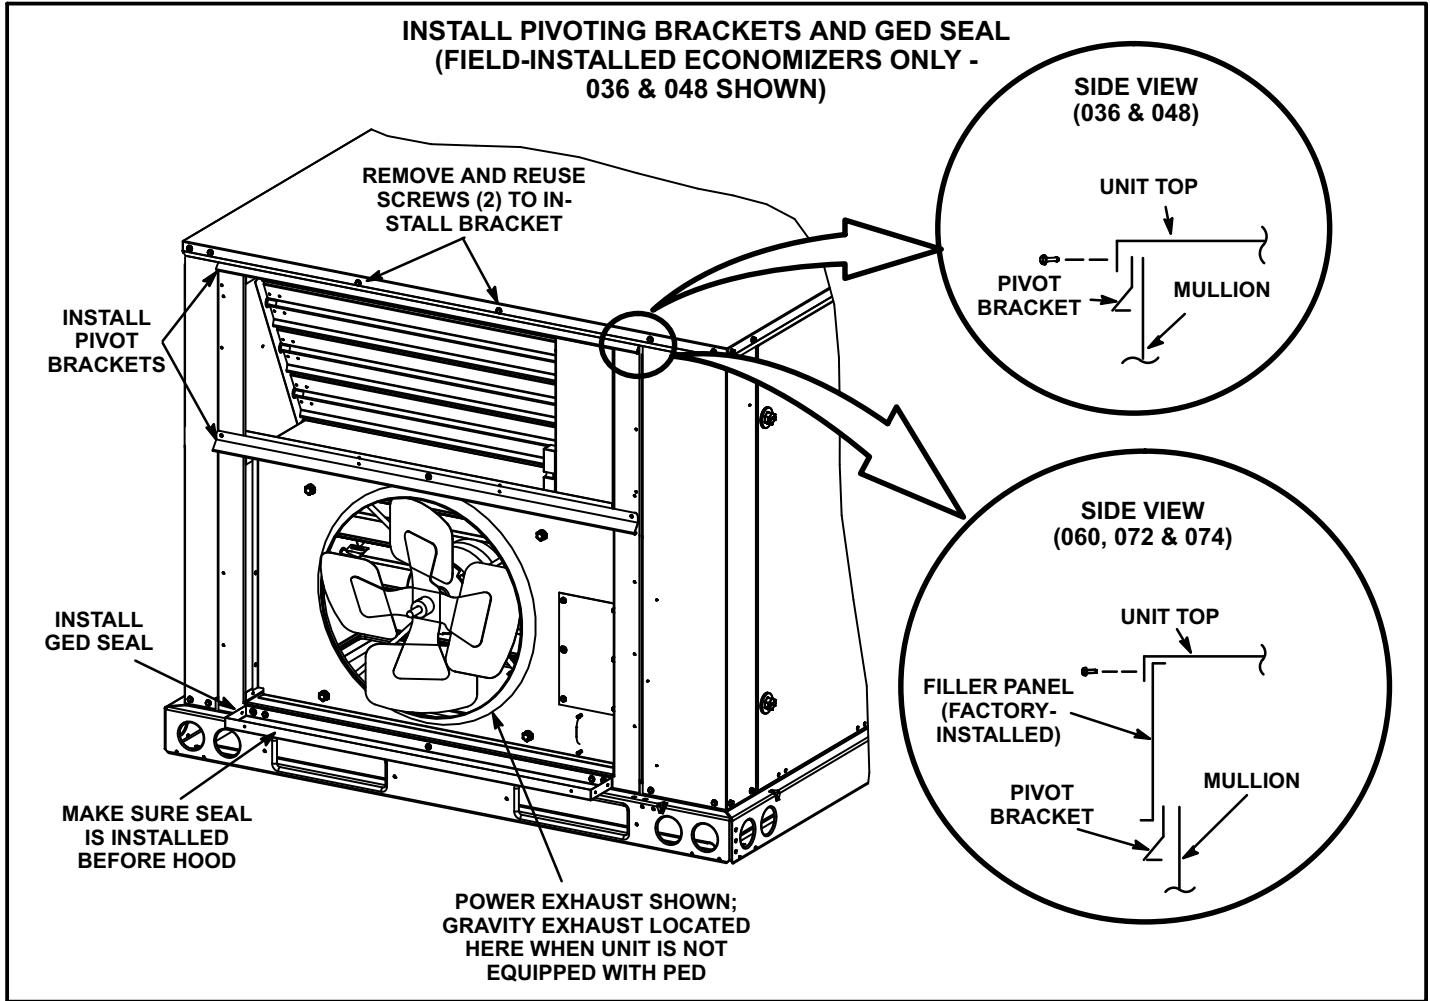

FIGURE 7
- 2- Install pivot brackets and seal on unit as shown in figure 7.